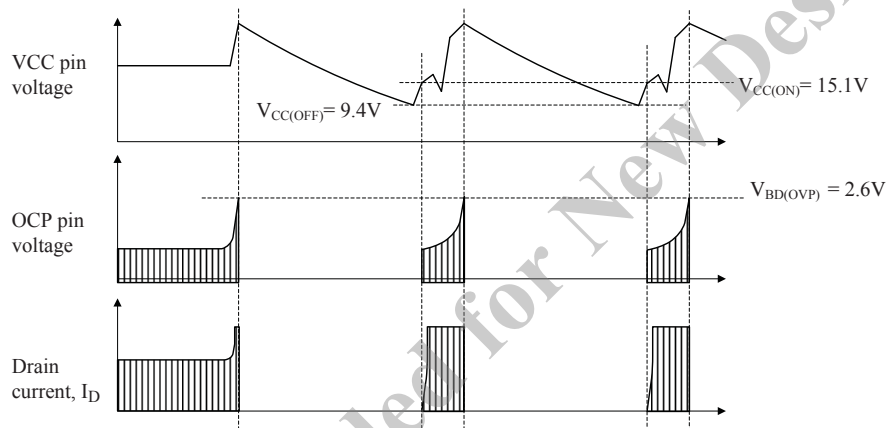

Figure 38. Waveforms when OCP pin OVP is being activated (LC552xD and LC552xF)
- OCP Pin Overvoltage Protection. Figure 38 shows the OCP pin OVP function. When the OCP pin voltage with reference to the S/GND pin reaches $V_{BD(OVP)} = 2.6\text{ V}$, OVP is activated. This input voltage must be less than the absolute maximum rating, 5V.